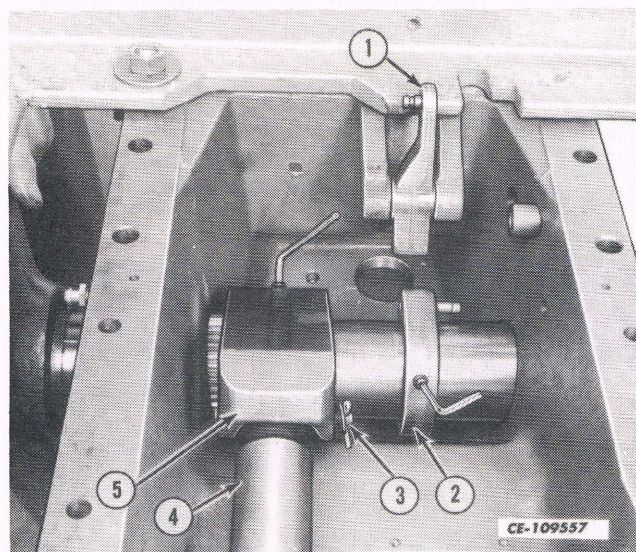

Fig. 25
m. Remove the allen set screws in the rockshaft bellcrank and the rockshaft actuating hub assembly (2). Remove the rockshaft from the left side and remove the right rockshaft arm with shaft. Note the timing mark on the end of the shaft and arm for reassembly. The bellcrank and actuating hub assembly have master splines for locating on the rockshaft. See Fig. 25.